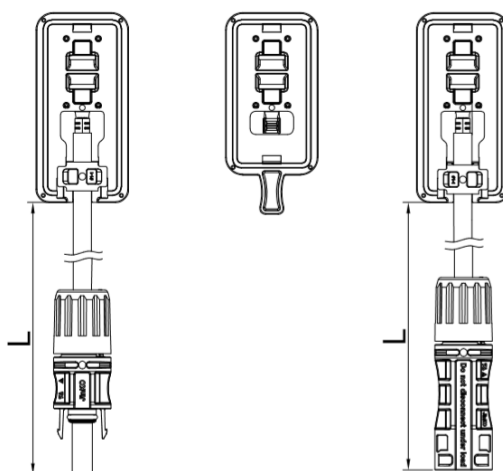

Figure 9 Split junction box diagram
- Figure 9 is for illustration only; refer to the module specifications for the specific dimensions of each junction box.